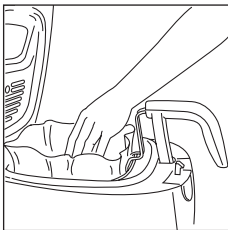

fig. 14
7. Put the basket back in the high position and place an oil filter into the bottom of the basket (fig. 14). You can obtain the filters from your retailer or one of our service centres.